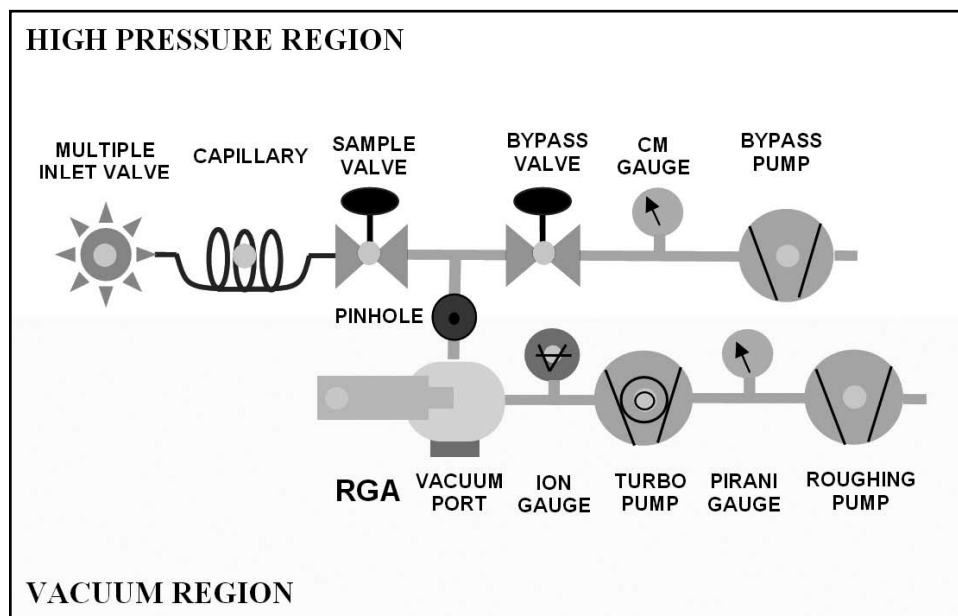

Figure 1-1. UGA Schematic
The UGA systems can be considered as two main subsystems: gas handling and the analyzer. The analyzer is the quadrupole mass spectrometer, which can only operate in high vacuum. The class of quadrupole mass spectrometer employed belongs to a class referred to as residual gas analyzers (RGA). These spectrometers specialize in large dynamic range measurements of light gases. The gas handling system consists of a capillary, a pinhole, pumps, and valves that deliver the sample gas to the analyzer. The UGA employs two separate diaphragm pumps (DP) for each stage. In this way, the high pressure sample line is completely separated from the analysis system. (see figure 1-1)